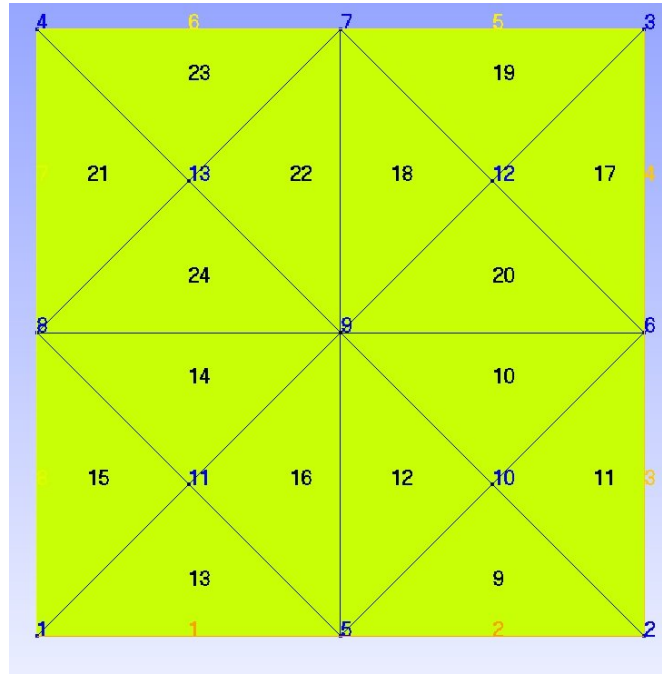

Figure 1: Example of a Coarse Mesh
Thanks to the script `square.geo` described in previous section we can obtain a simple mesh given by the Figure 1. Note that in practice we use meshes much finer. For simplicity reasons, we considered a mesh with very few elements to better understand the use of GMSH.
The description of various elements of the mesh begins after the keyword **\$Elements**. First, we have the number of elements (26th line of the file **square.msh**). Then, there is a detailed description of all elements of the mesh. In our case we have two types of elements: segments belonging to the boundary **Gamma** and triangles of the domain **Omega**. Each element is described by several indices. We detail those which correspond to the element of line 31 (an edge of the boundary **Gamma** and those corresponding to the element of line 47 (a triangle). These two elements are also presented in figure 1.
- *node1, node2, node3* : these indices refer to nodes that constitute our element. The segment of line 31st is formed by the two nodes number 3 and 7. The triangle of line 47 is formed by vertices number 13, 4 and 8. (See figure 1).